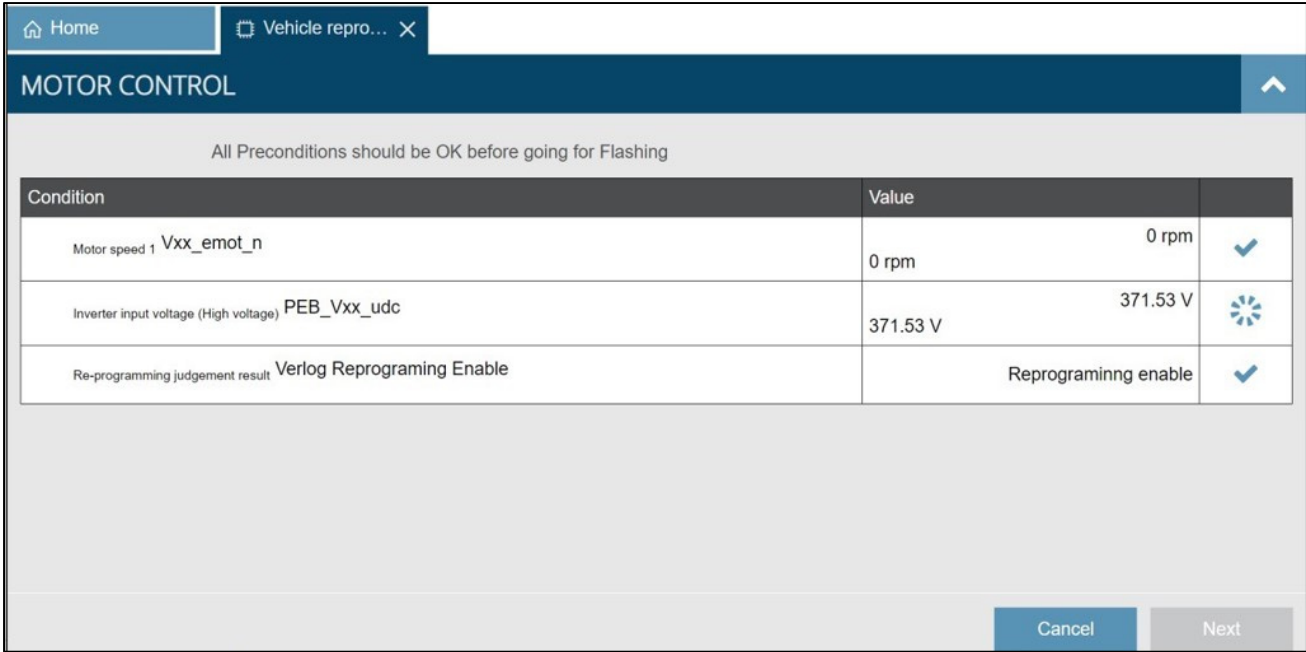

Figure 13
- 18. When the screen in Figure 13 is displayed, verify the headlamps and HVAC are turned OFF, and then press and hold the power switch for 5 seconds to turn the ignition OFF.